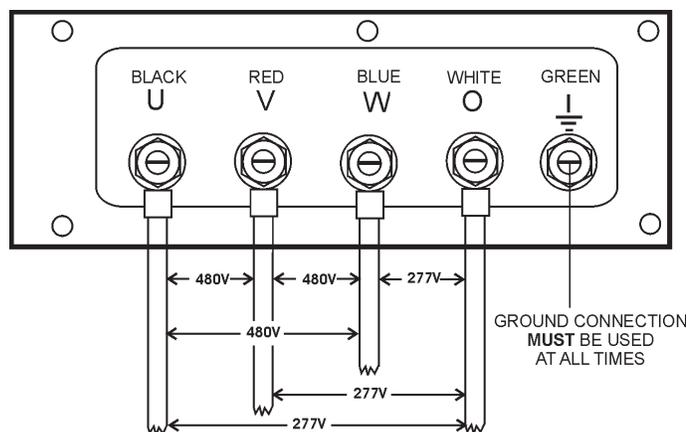

Figure 28. Output Terminal Lugs 3Ø-480/277V Three Phase Connections
2. Connect the load wires to the **Output Terminal Lugs** as shown in Figure 28.